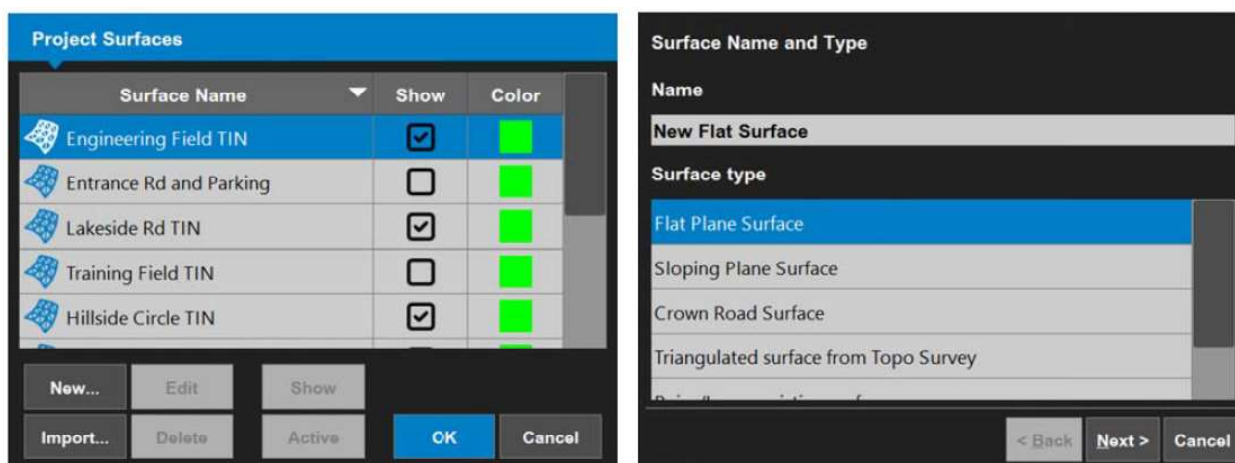

Figure 2-37: Surfaces Screen—New Flat Surface
1. Press the **Power** button on the display, then select **Data > Surfaces**. The **Project Surfaces** screen appears (Figure 2-37).
2. Select **New** to create a new flat or sloping surface file. The **Surface Name and Type** screen appears (Figure 2-37).
4. Select **Flat plane surface** and select **Next** (Figure 2-37). The **Flat Plane Surface** screen appears (Figure 2-38 on page 2-28).